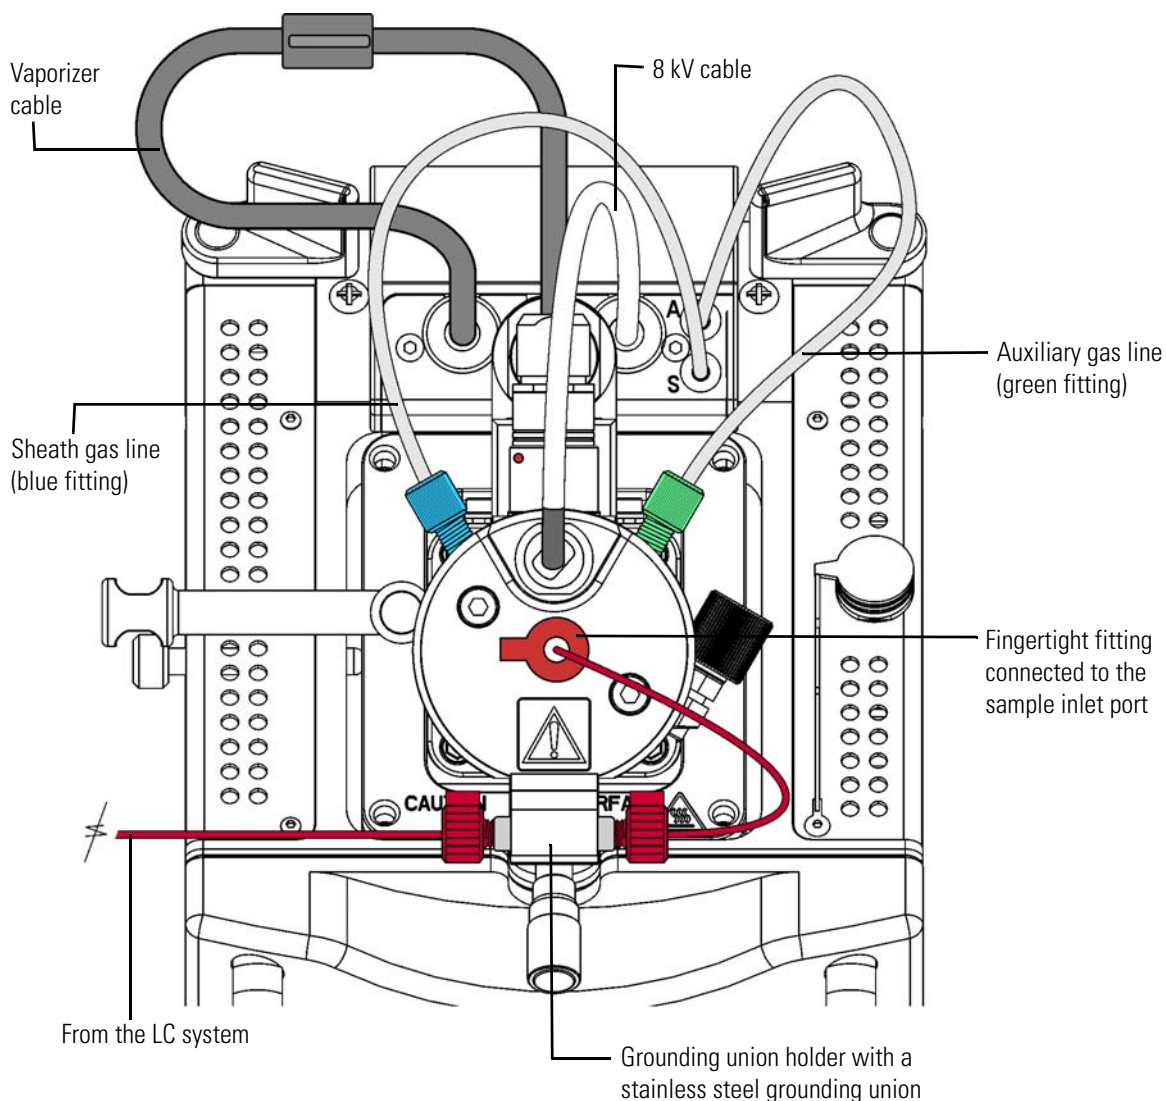

Figure 8-23. HESI-II probe installed in the Ion Max API source housing
Figure 8-23 shows the HESI-II probe installed in the Ion Max API source.
2. Unscrew the fingertight fitting from the sample inlet port (see Figure 8-23 on page 8-40).